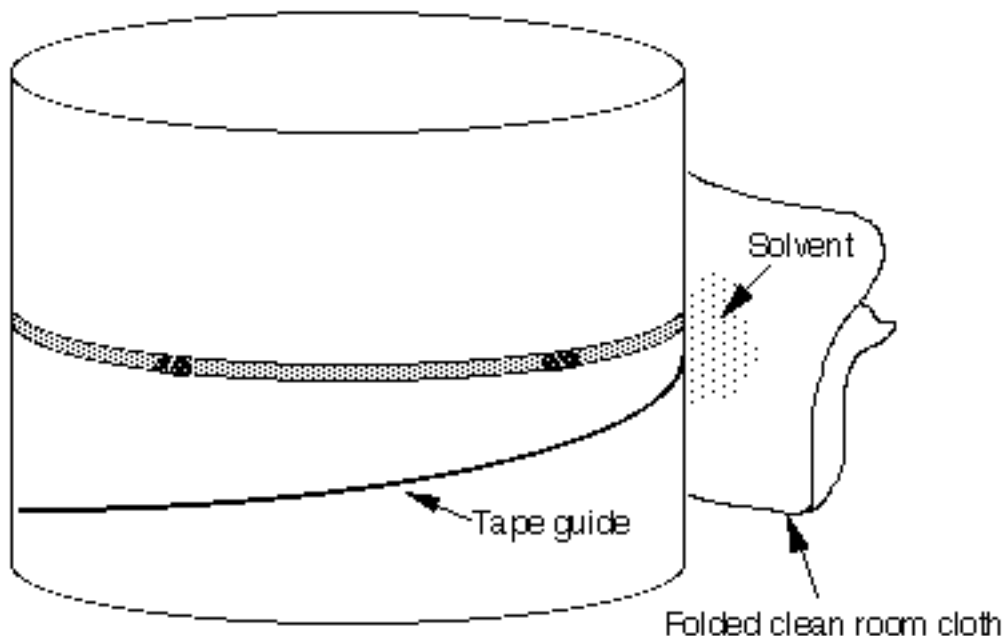

Figure 1. With the heads rotated out of the way, hold the solvent-dampened cloth against the slot. Then rotate the heads past the cloth.
5. With the heads rotated out of the way, lightly press the damp wipe to the scanner surface applying light, even pressure and straddling the slot. *Do not try to press the wipe into the slot between the drum halves* as this may damage the heads in the next step. (One should barely feel the heads contact the wipe.) See Figure 1.